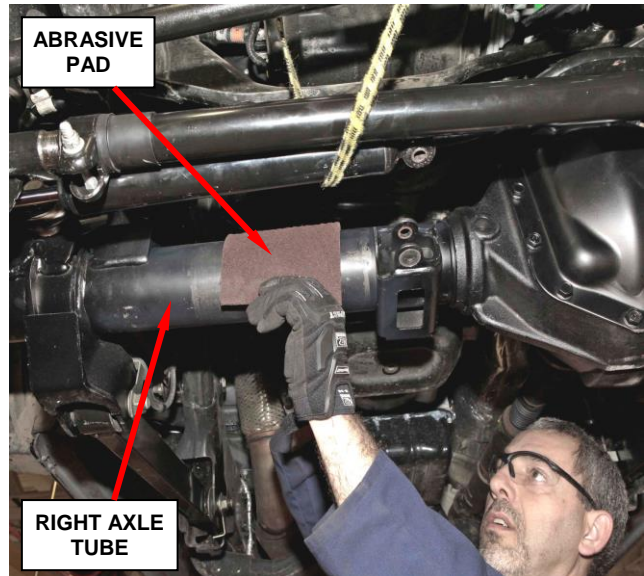

Figure 8 – Clean Axle Tube
- a. Using an abrasive pad or 100 grit sandpaper, remove any rust and/or debris from the axle tube (Figure 8).